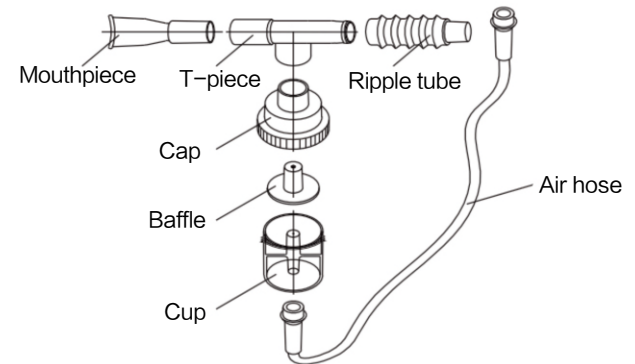

Figure 12: Nebulizer Components
- › Pull out the air hose, pull the mouthpiece, downward pull the cap, empty remained medicinal liquid in the nebulizing cup, then wash the air hose, mouthpiece, cap, baffle, cup, ripple tube, T-piece, etc. , with pure water or immerse them in warm water for about 15 minutes (Figure 12). In order to wash them properly, you may add some vinegar in water.